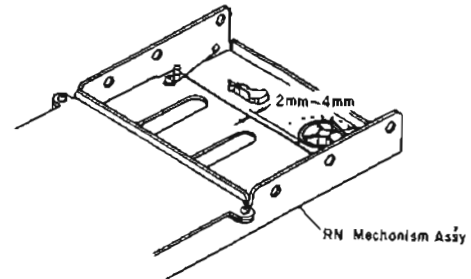

Fig. 2.23
- (1) Pull out the connector CN604 on the Logic P.C.B. Ass'y.
- (2) Ground TP604 to set the cassette case to its side A.
- (3) Adjust VR607 to obtain a gap of 2 to 4 mm as shown in Fig. 2.23.
- (4) Ground TP603 and TP604 to set the cassette case to its side B.
- (5) Adjust VR606 to obtain a gap of 2 to 4 mm as shown in Fig. 2.23.
- (6) Ground only TP603 to set the cassette case to its eject position.
- (7) Adjust VR605 to the position where the cassette case is about to start rotation.
- (8) Repeat above steps (2) to (7) two or three times.
- (9) Plug CN604 into the original place.